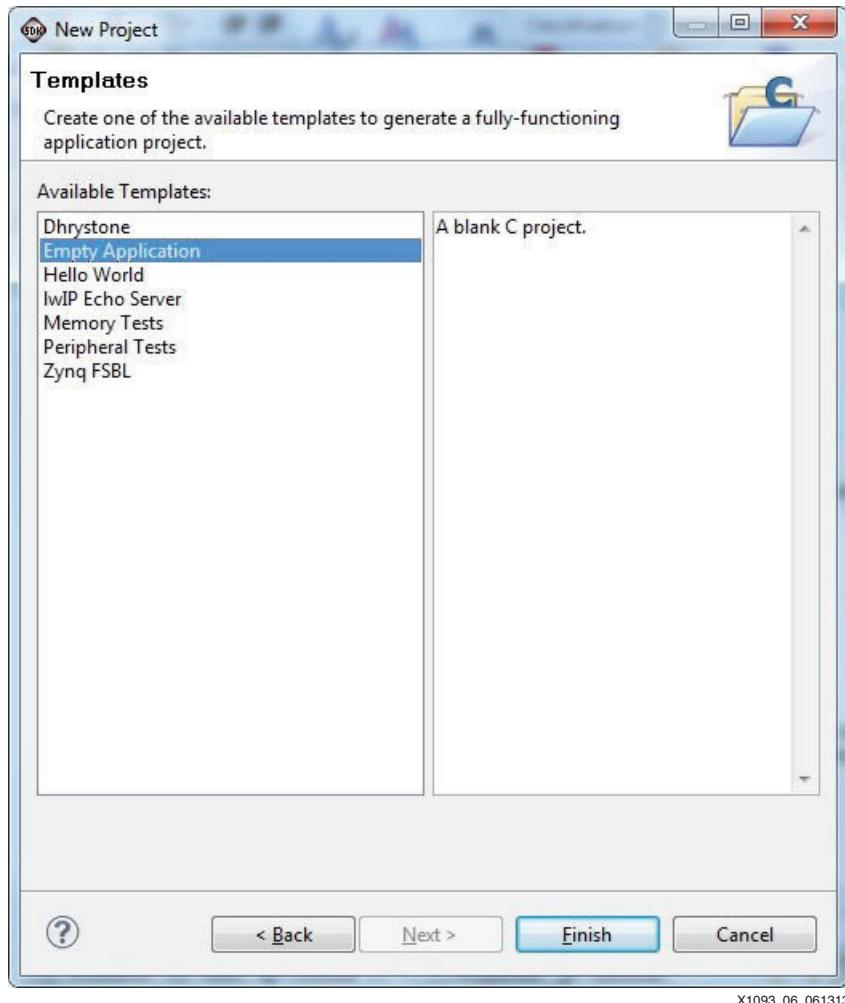

Figure 6: CPU0 Empty Application
5. Select **Empty Application**, as shown in Figure 6.